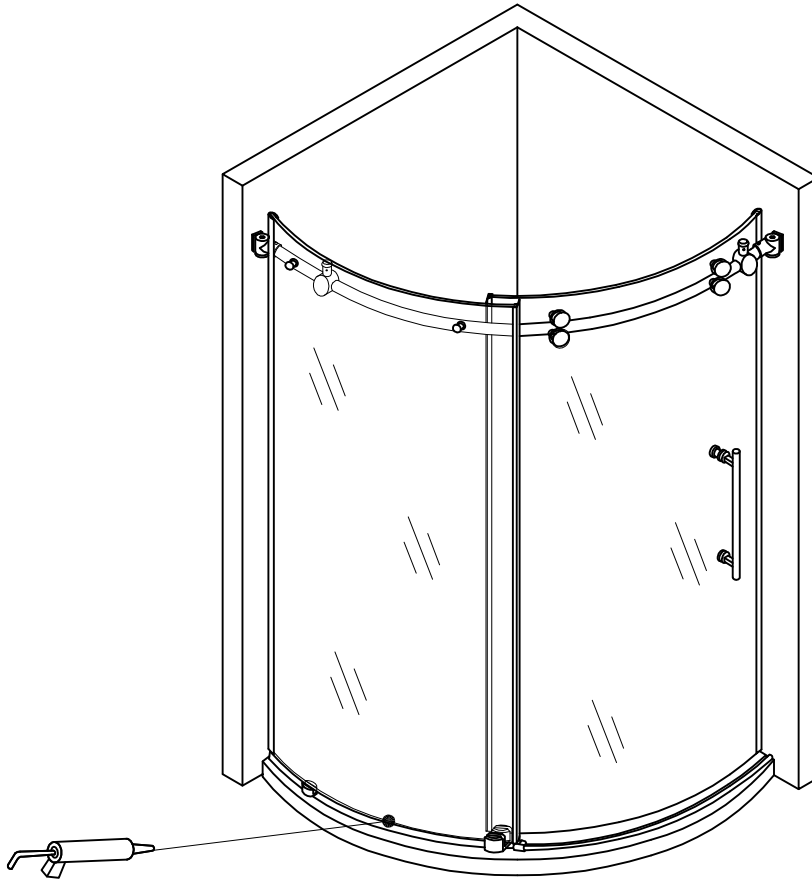

FIG.11
1. Apply silicone all along the wall and floor on the interior of the shower enclosure. (FIG. 11)